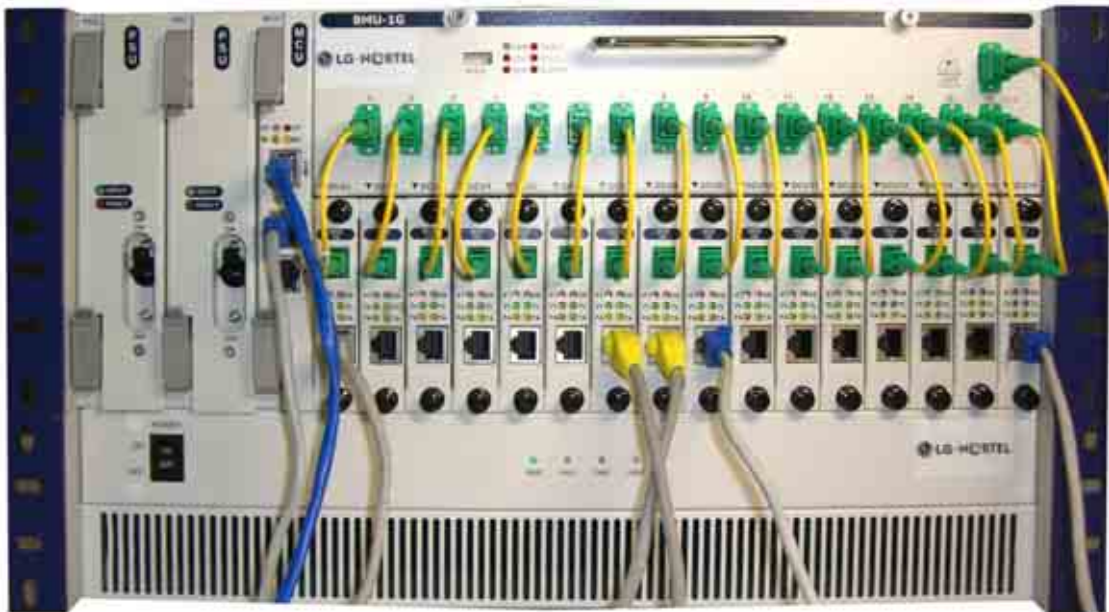

Fig. 3-2 OCU and BMU optical connection, OCU and L3 switch electrical connection
- For optical connections between OCU and BMU, use the SC/APC type optical patch cord (2.4 mm thick, 20 cm long) that are providing in the OCU shipping boxes. (See Fig. 3-2 for connection example)
- For electrical connection (RJ45) between Aggregation switch in CO with OCU, use the straight type STP cable (Cat. 5e or Cat. 6). (See Fig. 3-2 for connection example)